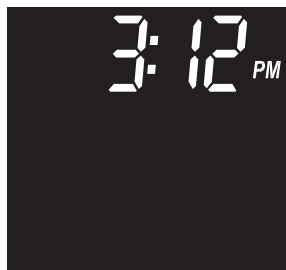

FIG. 19
3. Press the PROGRAM button four times to return to the normal run display (See Fig. 19).